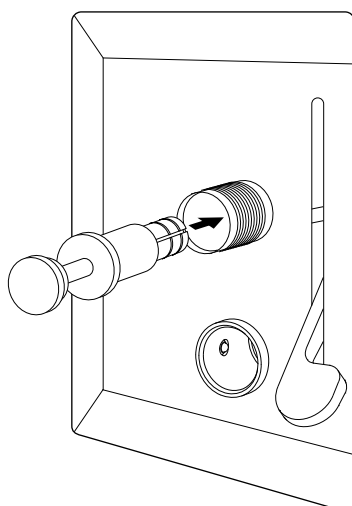

Figure 6-41. Inlet valve seal tool inserted in the inlet valve
5. Insert the tool straight into the inlet valve. See Figure 6-41.